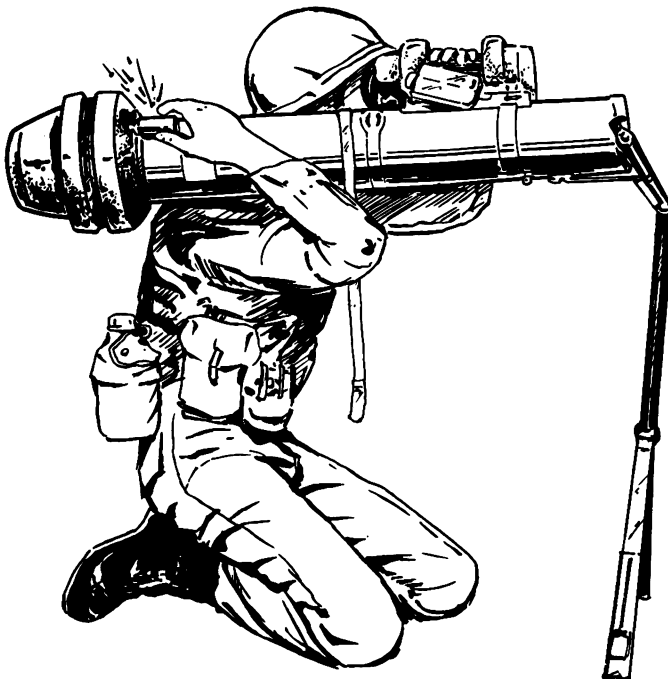

Figure 1.
2. If the round still does not fire, cautiously feel the thermal battery (figure 1).